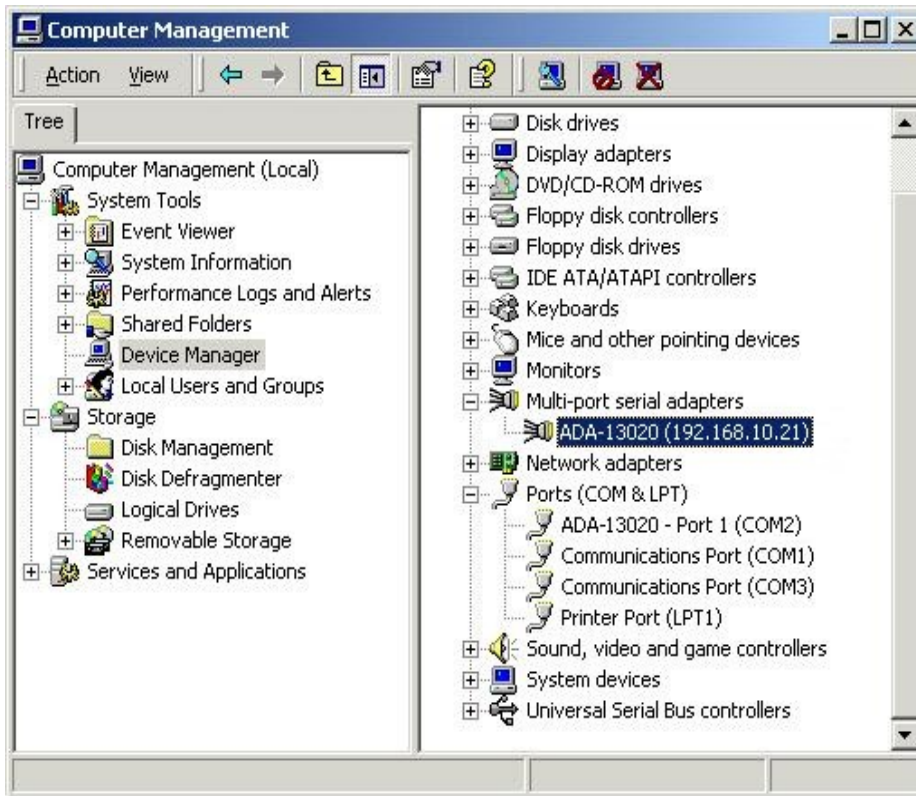

Fig 23. Device view on Windows XP
3. Press **[Ports (COM & LPT)]**. On fig. 23 are shown available serial ports COM1, COM2 and **COM3** marked as **Digi Connect ME** which was created after installation of RealPort driver.